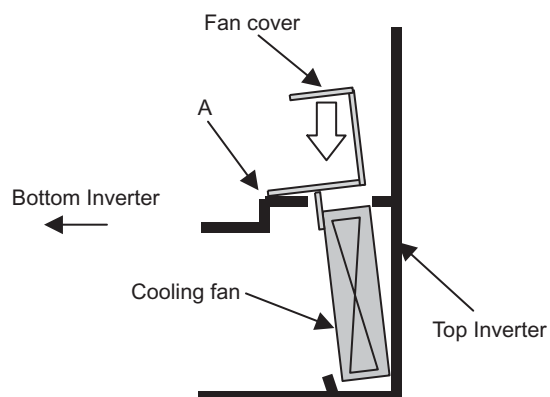

Fig 8.3
1. Tilt the fan cover toward the bottom of the Inverter as shown in Fig 8.3 and insert it to the mounting hole until it meets with A.